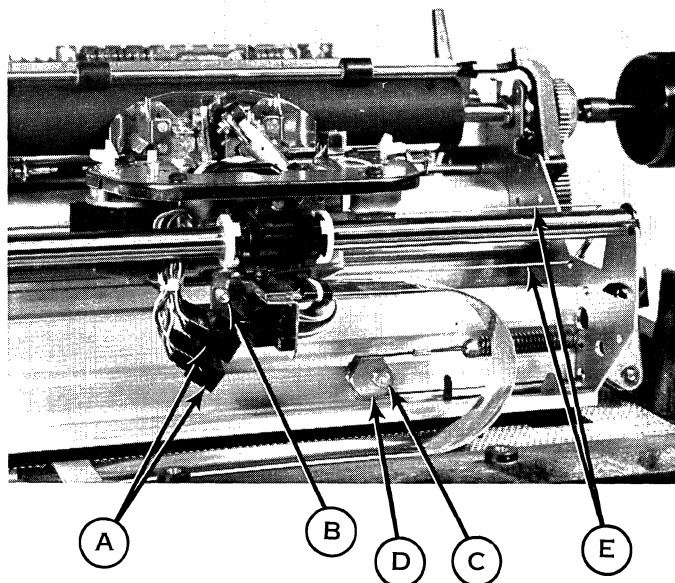

Figure 4-18. CARRIAGE ELECTRICAL CABLE ASSEMBLY & SNUBBER
- 4) Disconnect the two cable connectors mounted at the lower front of the carriage (Item A, Fig. 4-18).
- 5) Loosen the screw (Item B, Fig. 4-18) that holds the carriage cable mounting bracket, and release the bracket from the carriage.
Refer to Figure 4-18.